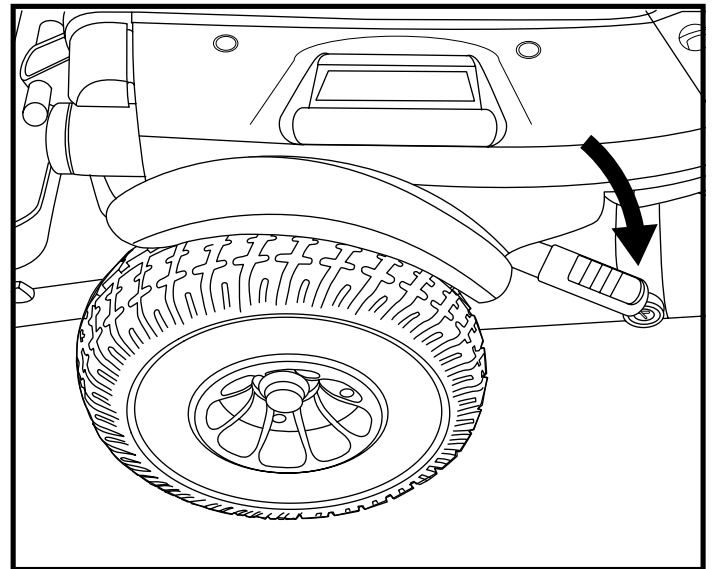

Figure 10. Freewheel Mode (Drive Disengaged)
3. Pull the two levers outward to disengage the drive motors (freewheel mode). See figure 10.